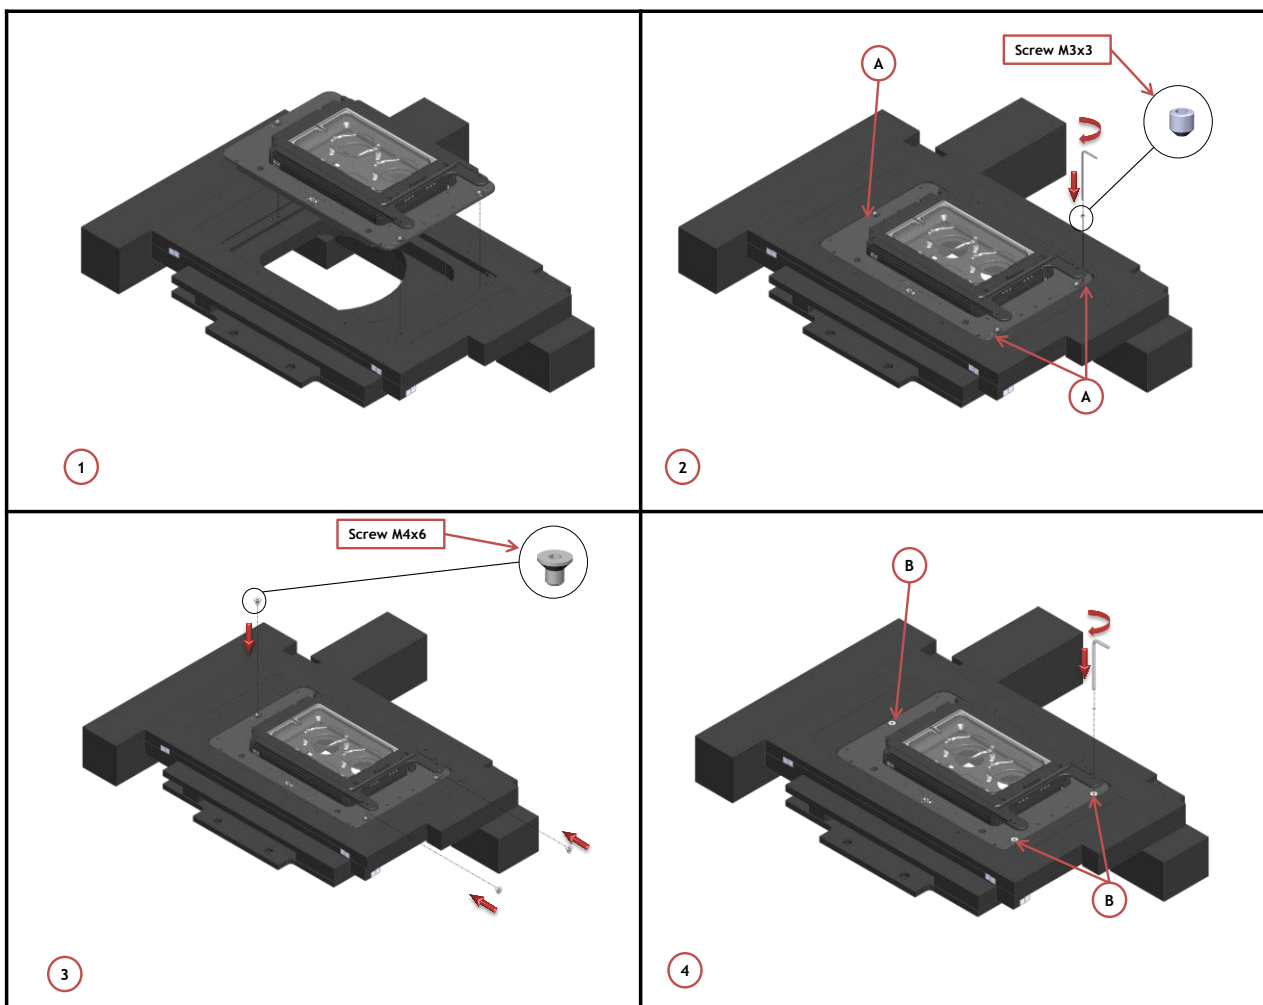

Figure 21. How to fix the H301-NIKON-TI-S-ER to the XY stage.
Once you have assembled the chamber with adapter you can place it on the XY stage, following the steps shown in Figure 21.
1. Place the adapter on the stage (See Figure 21 Image 1).
2. Use the Grub screws to align correctly the adapter on the stage. Grub screws housings are indicated with letter A in Image 2 of Figure 21.
3. Follow the arrows shown in Image 3 of Figure 21 for placing flat socket head cap screws; use the provided Allen wrench for tightening the flat socket head cap screws and fastening the adapter on the stage. Screws housings are indicated with letter B in Image 4 of Figure 21.